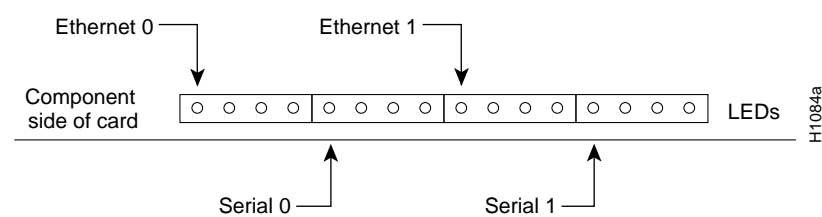

Figure 5 CSC-MCI Card LED Indicators—Partial Front-Edge View
- Step 8** Check LEDs, which are listed in Table 8 and shown in Figure 5.
The CSC-MCI card contains a bank of 16 LEDs. (Four are currently used.) Table 8 lists the LEDs that are used and the serial and Ethernet port each LED represents. LED 0 is at the left end of each block of four LEDs (as you view the front edge of the card in the system card cage—shown in Figure 5). At startup, all LEDs flash and then only those LEDs that indicate active interfaces will stay on. A problem is indicated if all LEDs remain on after the system boots, or if the LED of a specific interface does *not* stay on after the system boots.